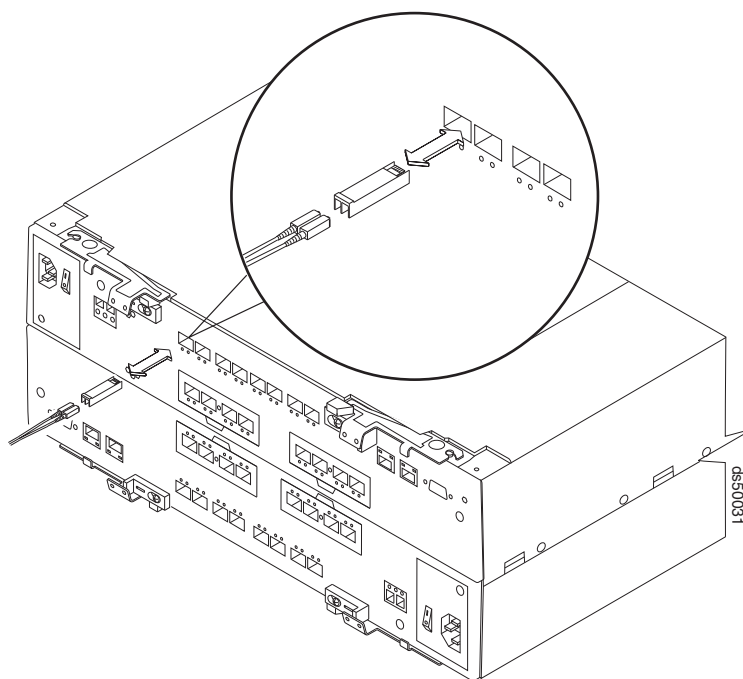

Figure 25. Installing an SFP module and LC-LC cable in a supported DS5000 storage subsystem
2. Connect an LC-LC fibre-optic cable into the SFP module, as shown in Figure 25.
Note: Figure 25 shows a DS5000 Storage Subsystem. The DS5000 Storage Subsystem is shown for illustrative purposes only.